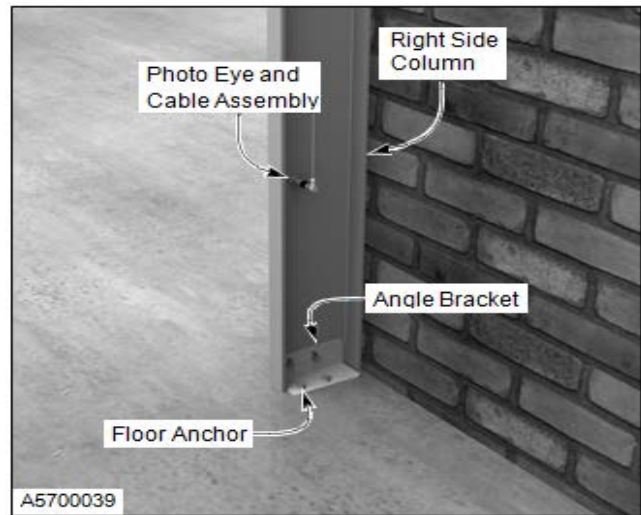

Figure 12
- Anchor the floor angle bracket. DO NOT tighten the anchors securely at this time — they will be tightened after the head assembly is installed. (See Figure 12)